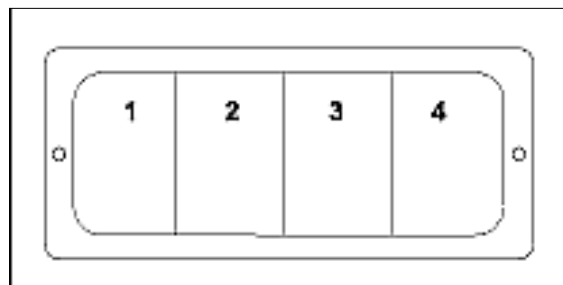

Figure 9
Step 7 –See Figure 9
For the 444TA, use a Sharpie or equivalent style marker to write which alarm goes to which tank or operation on the upper label shown in Figure 9. When finished, apply the clear cover to the label. (See Figure 9.)